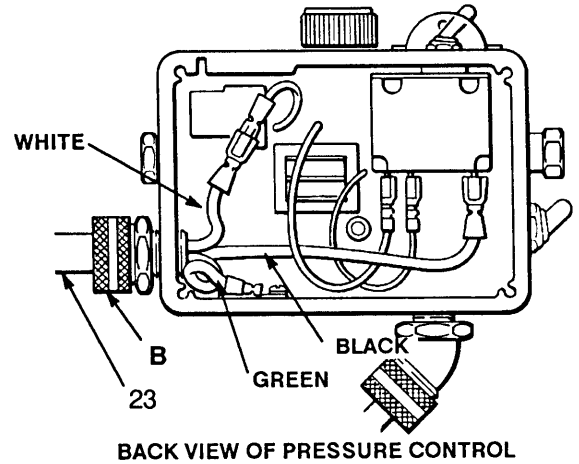

Fig 12
3. Loosen the strain relief bushing (B). Remove the power supply cord (23). See Fig 12.